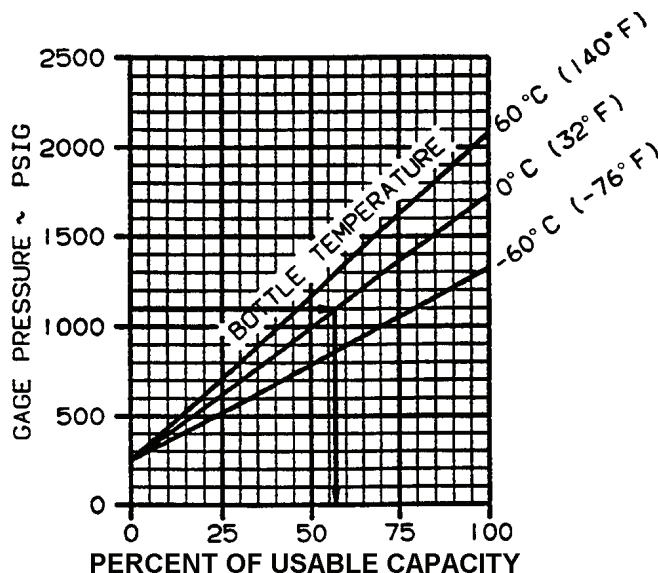

Figure 8A-1. Percent of Usable Capacity
- (1) Read oxygen pressure from the gauge.
- (2) Read the OAT.
- (3) Determine the percent of usable capacity from Figure 8A-1 (e.g., 1100 psi at 0°C = 57%).
- (4) Compute the oxygen duration in minutes from Table 8A-1 by multiplying the full bottle duration by the percent of usable capacity, as in the following example: